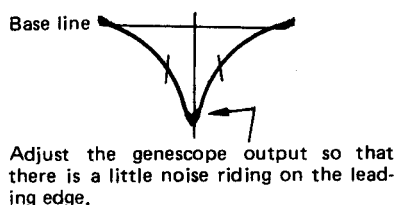

Fig.12
1. Feed in a weak signal from the genescope. Adjust T201, T203 for maximum gain and the waveform of Fig. 12.